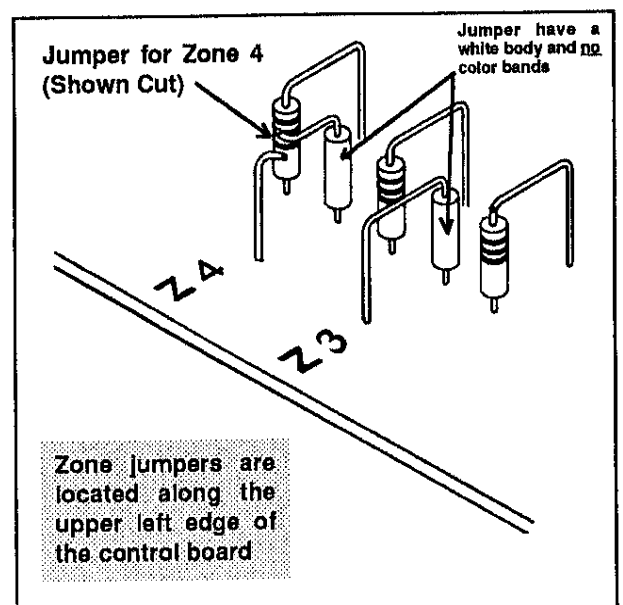

FIGURE 8. NON-SUPERVISED ZONE JUMPERS
If end-of-line resistor supervision is not desired, a conventional closed circuit loop may be connected directly to the appropriate zone input terminals by first cutting a corresponding zone jumper on the control board. See FIGURE 8 and FIGURE 18. These jumpers are labeled Z-01 thru Z-08. The same applies to zones 09 - 16 when an optional SX-3104 Zone Expander is used.
- Cut corresponding zone jumper if end-of-line resistor supervision is not required (see figure 8 ).